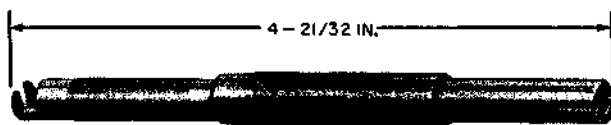

Fig. 28—KS-19092, L1, Insertion and Extracting Tool
2.30 KS-19092, L1: The KS-19092, L1, inserting and extracting tool (Fig. 28) is used with 24-gauge strap wire on wedge terminals of printed circuits.